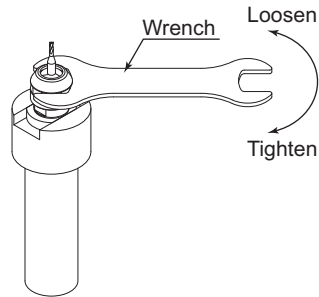

Fig 10
- ④ Insert the tool in to the collet chuck and set the wrench on the collet holder. Set the wrench on the chuck nut, and tighten the chuck nut by turning clockwise. (Fig. 10)
- ⑤ When removing the tool, set the wrench on the chuck nut and turn it counterclockwise to loosen the collet chuck and remove the tool. (The first turn will loosen the chuck nut, but the tool will not release and turning will become stiff. Keep turning through the stiffness and the collet chuck will open.)